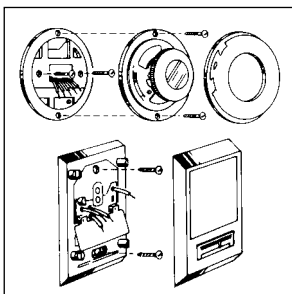

Figure 1
2. Remove cover of old thermostat to expose wires. (Figure 1)